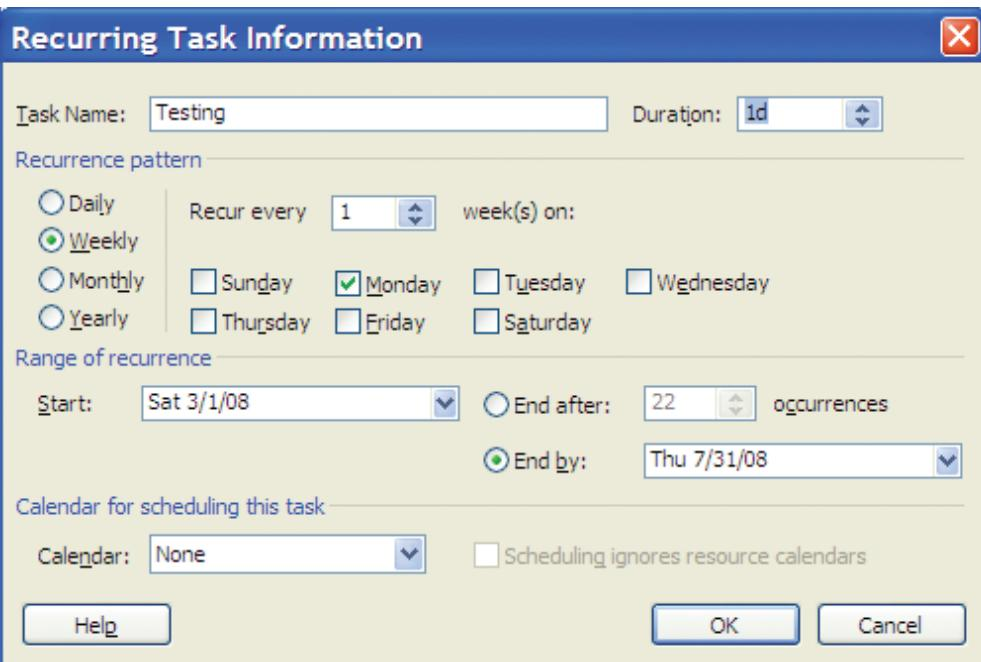

FIGURE T12.11
3. In the Recurring Task dialog box, type the name of the recurring task in the Task Name field, for example, "Testing" (see Figure T12.11).
5. Specify the details of when the task is to take place during that frequency; for example, every other Thursday or every Monday, as in Figure T12.11.